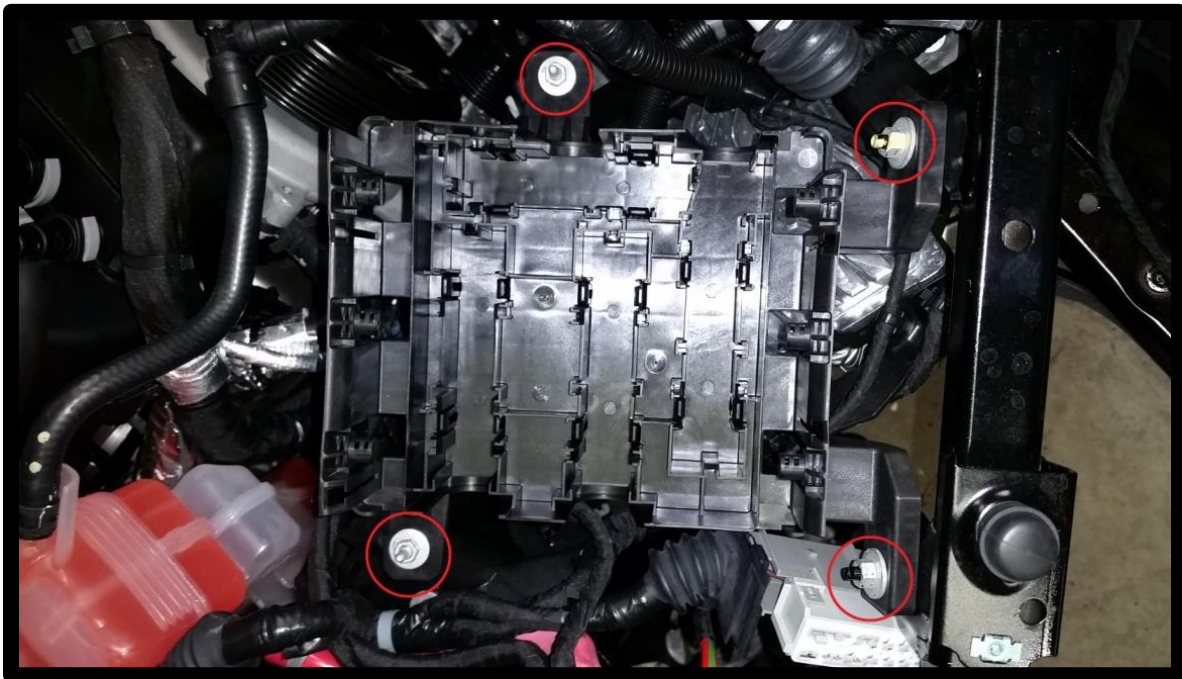

Figure 14: Removing Fuse Box Mount
15. Remove the fuse box mount by removing the four 10MM nuts shown in Figure 14.